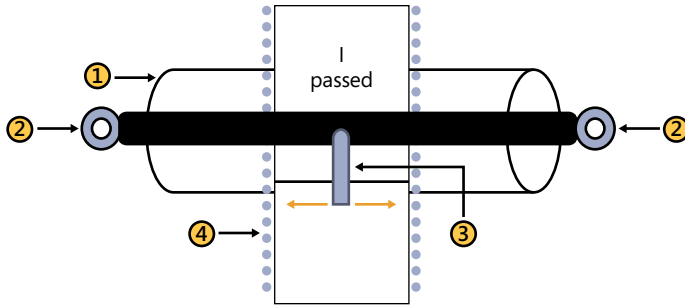

FIGURE 7-14 Elements of an impact printer.
The primary components of an impact printer are the platen, the ink ribbon, and the print head, shown as items 1, 2, and 3 in Figure 7-14. Impact printers commonly use a tractor feed and use continuous-feed paper. The paper has holes on the edges (item 4) that fit into sprockets in a tractor feed mechanism in the printer. The tractor feeder moves a continuous fan-fold roll of paper through the printer.